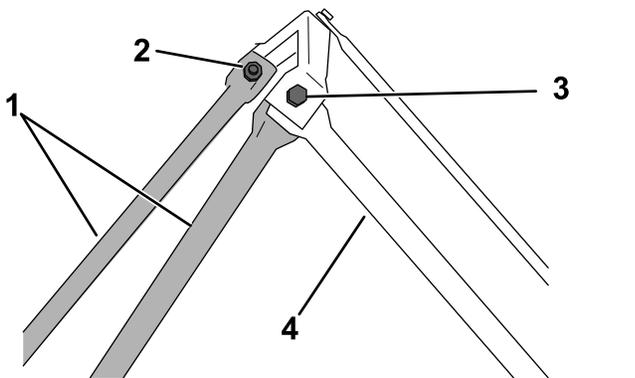

Figure 7
- Secure the 2 side frame tubes and 2 front posts to the front frame tube (Figure 7).